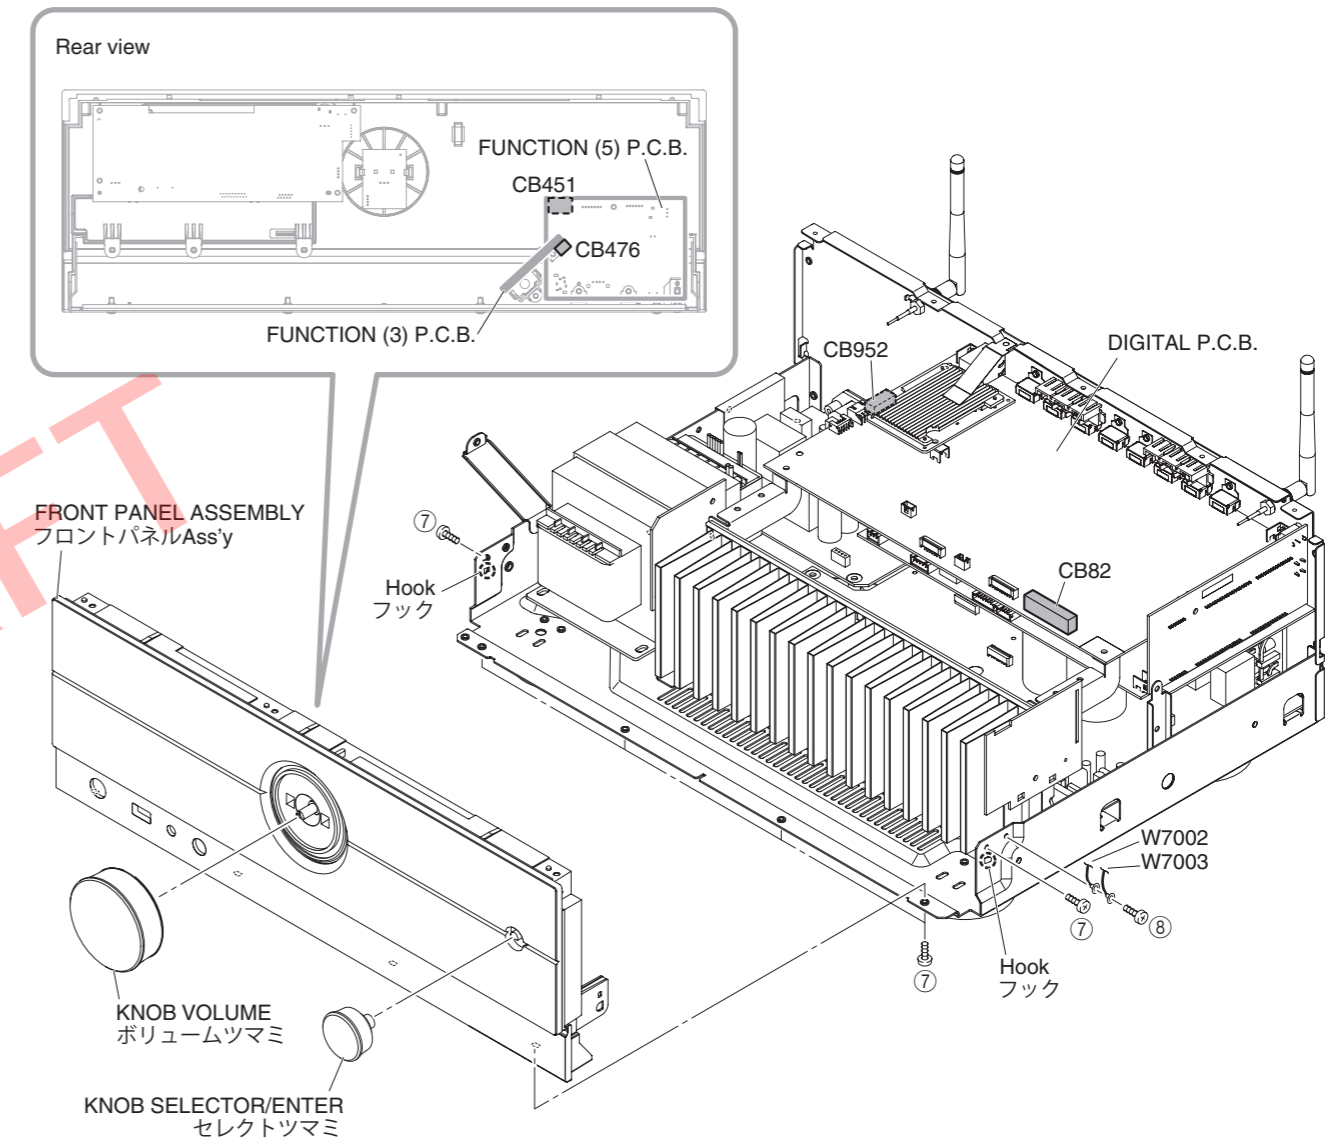

Fig. 2
3. Removal of FRONT PANEL ASSEMBLY (Fig. 2)
- Remove 6 screws (⑦).
- Remove screw (⑧), and then remove 2 cables of the W7002 and W7003.
3. フロントパネル Ass'y の外し方 (Fig. 2)